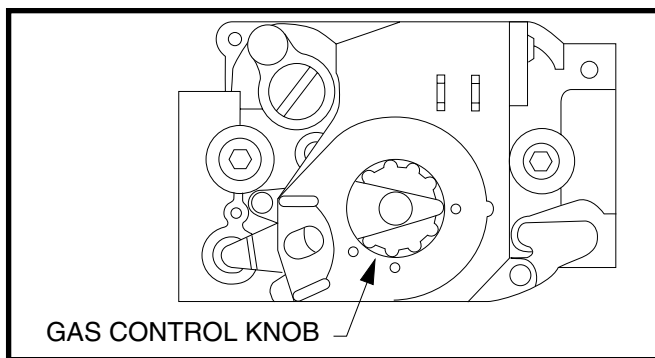

Figure 28. Direct Ignition Gas Valve - Honeywell
3. Remove the furnace door and turn off the gas valve. Push in and turn the gas control knob clockwise to **OFF**. See Figure 28 \(page 20\).
4. Wait ten (10) minutes to clear out any gas. If you smell gas, **STOP!** and follow the Safety Information. If you do not smell gas, proceed to step 5.
6. Turn the gas valve **ON**. Push in and turn gas control knob counter-clockwise to **ON** (Figure 28).
4. Turn gas control knob clockwise to **OFF** (Figure 28).
- Verify the furnace On-Off switch is in the ON position. See Figure 27 \(page 15\) or Figure 28 \(page 20\).